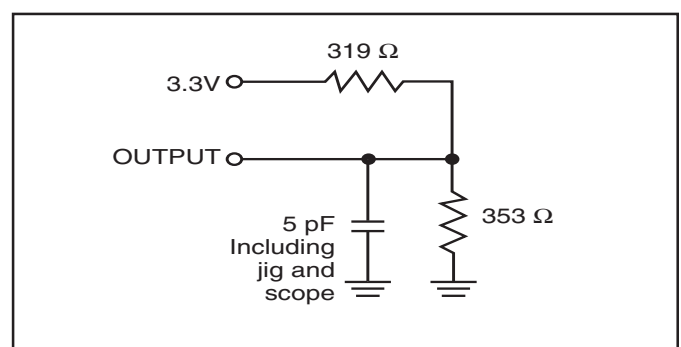

Figure 2.
2. Tested with the load in Figure 2. Transition is measured ±500 mV from steady-state voltage. Not 100% tested.
3. Tested with the load in Figure 2. Transition is measured ± 500 mV from steady-state voltage. Not 100% tested.